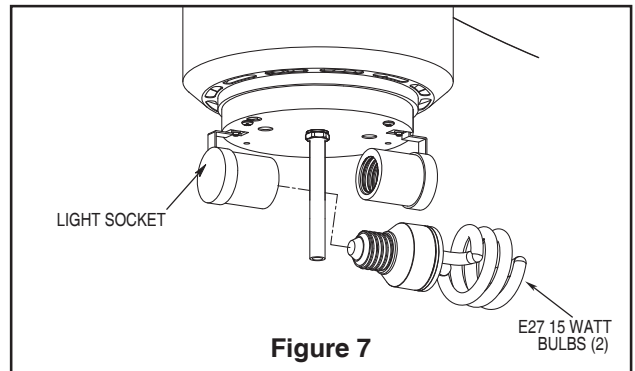

Figure 7
7. Cut off excess lead wire approximately 6 to 9 inches above top of the top of the downrod. Strip insulation off 1/2-inch from the end of each lead wire (Figure 7).
- 7. Insert light bulbs into sockets (Figure 7).